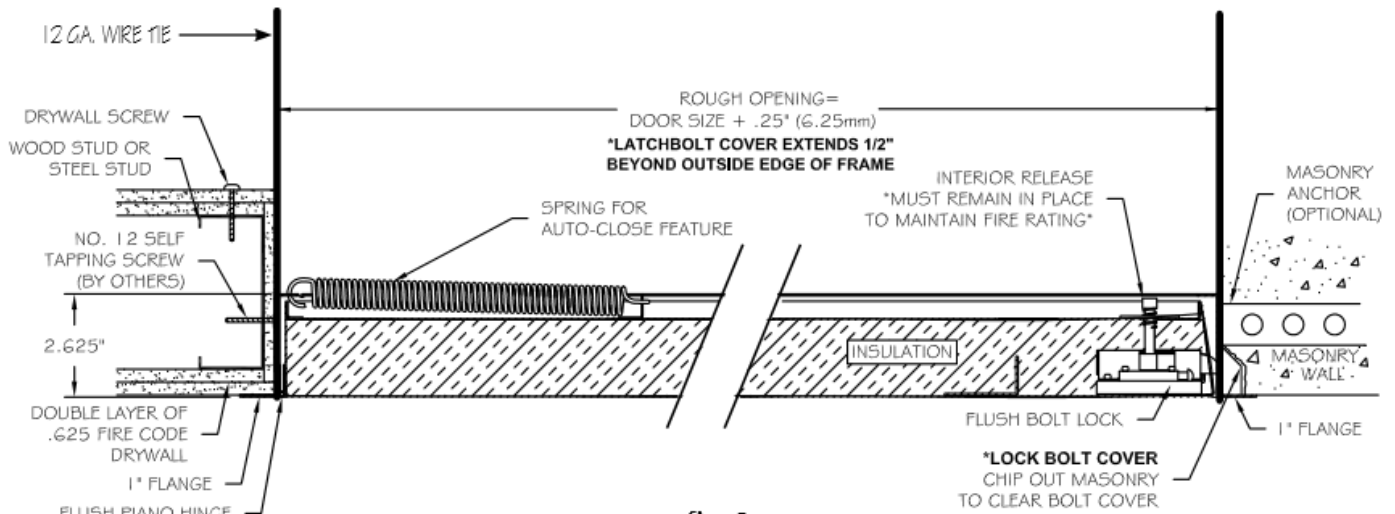

fig. 3
3. Frame can be supported with 12 ga wire ties to ceiling structure at all four corners or plumbers tape attached from framing screws to studs of floor above for ease of installation, fig. 3.